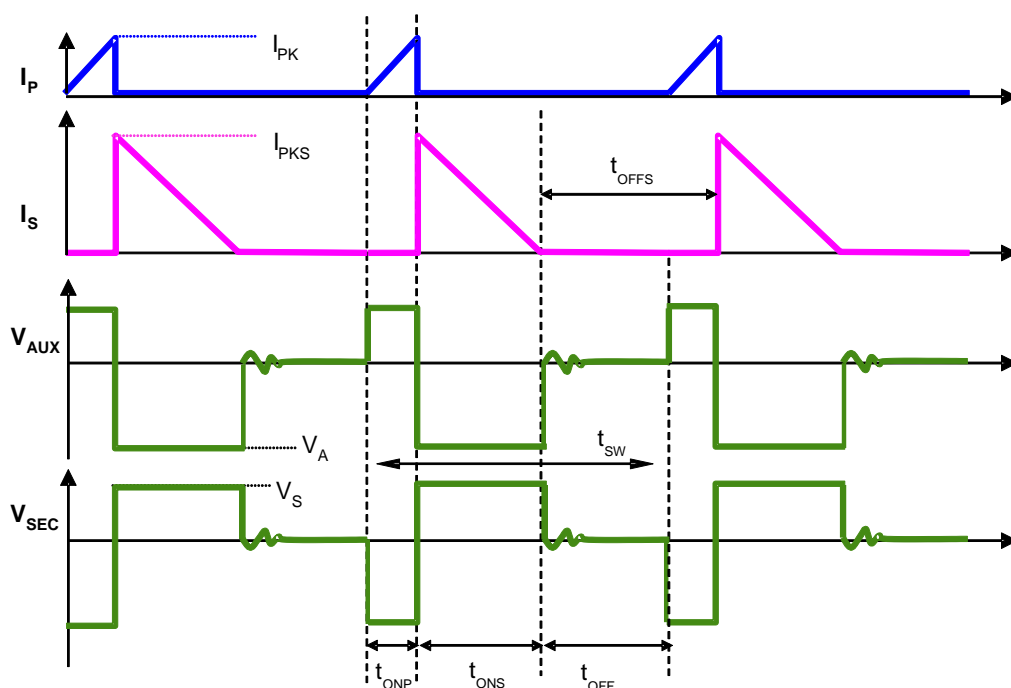

Fig.3 Typical Waveforms
Fig.3 shows the typical waveforms which demonstrate the basic operating principle of μP6321M application. And the parameters are defined as following.
The μP6321M can work in constant-current (CC) mode. Figure 3 shows the secondary current waveforms. In CC operation mode, the CC control loop of μP6321M will keep a fixed proportion between D1 on-time  $t_{ONS}$  and D1 off-time  $t_{OFFS}$ . The fixed proportion is